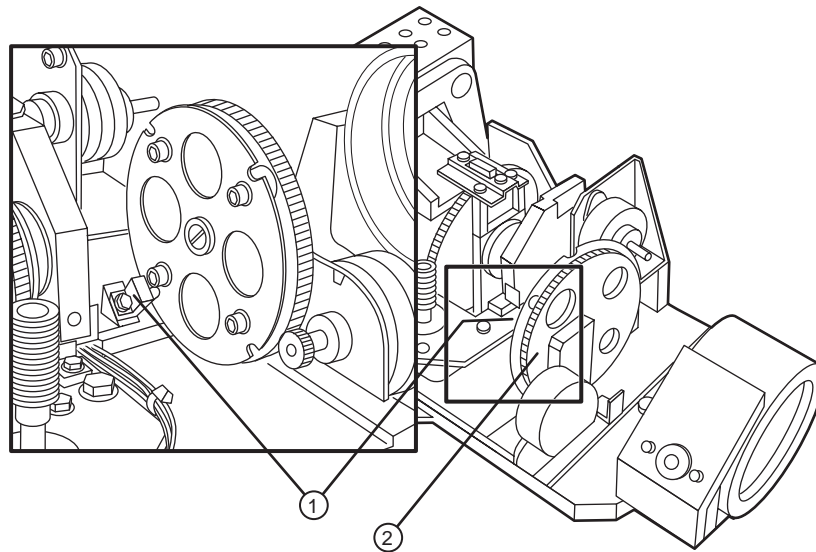

Figure 4-34 Spot size sensor location.
①—Spot size sensor. ②—Aperture wheel motor.
4. Remove the hex screw securing the sensor to the SGM casting. Refer to Figure 4-34.